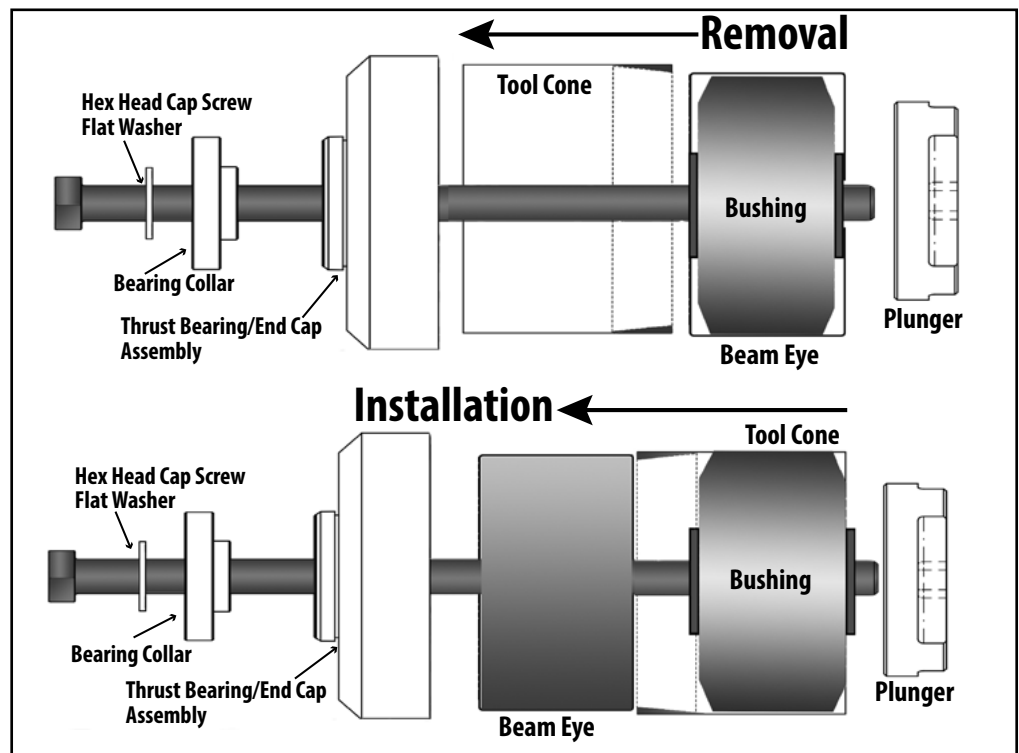

Figure 9. Bushing Replacement Tool (#6100044) is for trailer suspensions that use a narrow (4 1/8") rubber bushing.
2. Place flat washer onto hex-head bolt, followed by the bearing collar, then the end cap. The bushing tool cone tapers to a smaller opening on one end. Place larger opening of the cone onto the end cap. NOTE: Always place the tapered end of the cone against the eye of the beam (Fig. 9).